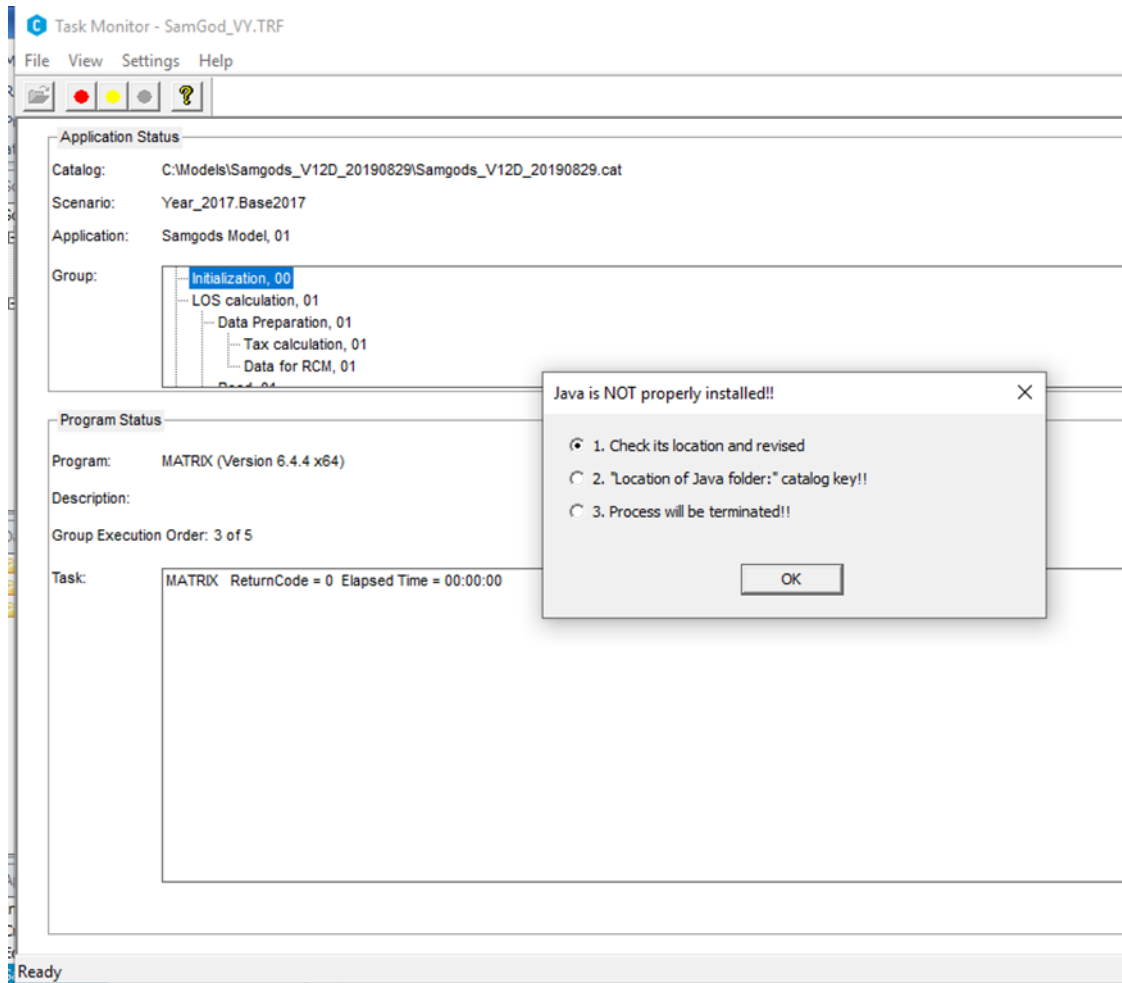

Figure 51 Warning message on Java installation
- c) "Maximum number of loops for Linear Programming process (LP)": number of LP loops the user would like to perform. Provide an integer value between 0 and 9. 0 will perform only LP0. The LogMod process will produce the best solutions and the suboptimal solutions (in terms of transport chains), the number of suboptimal solutions is controlled by the catalog key " Number of transport chain solutions for the Logistics Module". It is recommended to not change these settings and leave the default value
- 10) A message window appears with working on Java installation if the path is wrong. Process will terminated and user needs to revise "Location of Java folder:" catalog key accordingly to settings on the computer. Example of pop-up message window is in Figure 51.